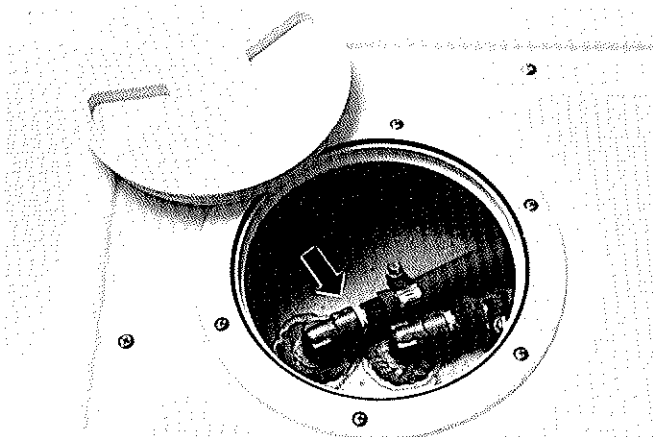

Figure 17
2. Check the fuel compartment for fuel leaks and fumes. Make sure all fuel lines and fittings are tight. See figure 17.